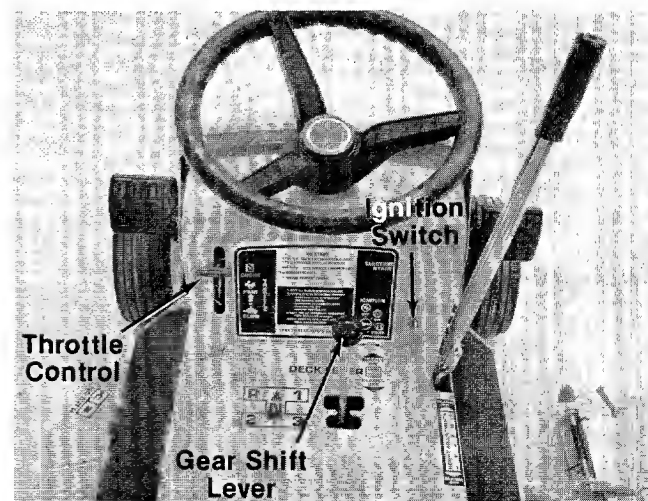

FIGURE 10.
CONTROLS (See figure 10.)
The throttle control is used to regulate the engine speed and to activate the choke on the engine. To get maximum efficiency from cutting, the throttle should be in the FAST position when operating the mower. Pushing the throttle all the way forward past FAST, will choke the engine. See figure 10.
Electric Start Model. The key must be turned to the "START" position to start the engine. After the engine is running, let the key return to the "ON" position. Turn the key to the "OFF" position to stop the engine. Remove the key when the mower is not in use. See figure 10.
See figures 10 and 14.
6. Set the throttle control lever in the "CHOKE" position. See figure 10.
b. **Electric Start Model.** Turn the ignition key to the "START" position. As soon as the engine starts, let the key return to the "ON" position. See figure 10.